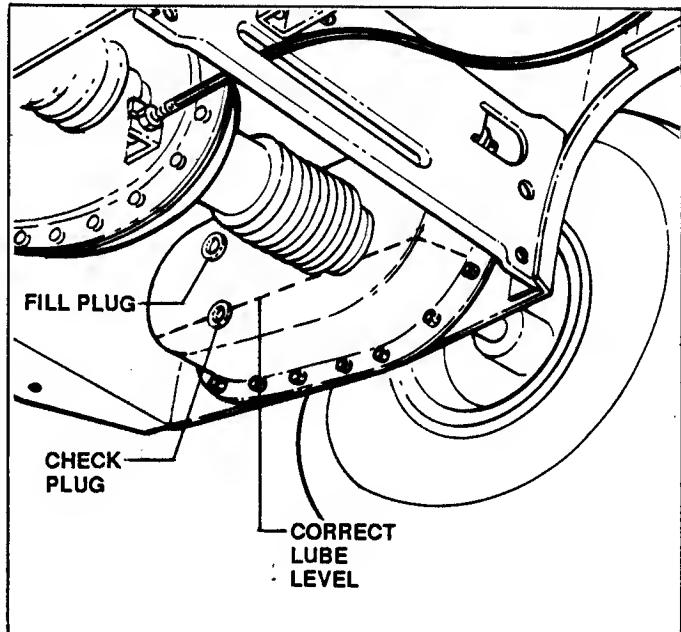

FIGURE 16
- CHECK GREASE LEVEL by removing CHECK PLUG on inside of unit shown in Figure 16 to check level of oil. Add SNAPPER "0" grease as needed thru upper fill hole to bring the level up to the lower edge of the CHECK PLUG hole. Reinstall NEW plugs after servicing.
- CHAIN CASE: Remove plug and check. If dry, add one ounce of SNAPPER "0" grease - do not overfill. Total capacity must not exceed 2 ounces. See Figure 16.